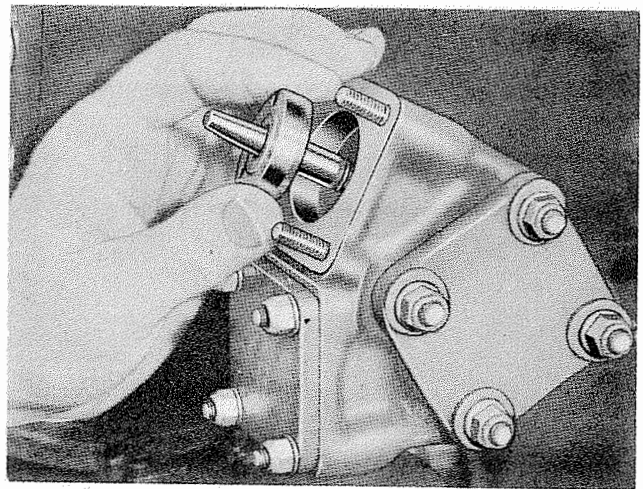

Figure 7-81. Installing Tachometer Drive Shaft Oil Seal and Retainer
b. Install a new rubber ring in the groove in the tachometer drive housing. Install the oil seal and retainer assembly using installing plug 806923. See figure 7-81.